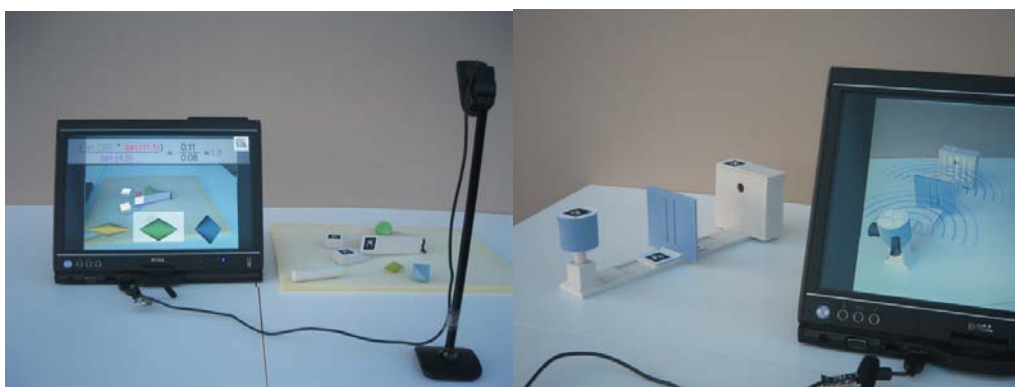

Figure 2
The miniatures are set up one at a time in the webcam's field of view. The webcam transmits an image to the laptop screen. SCeTGo software adds an overlay to the image. As the miniature is manipulated, the overlay changes in response. The overlay depicts an aspect of the scientific phenomenon under investigation, for example trigonometric information or waves (Figure 2). This process of adding unseen elements to the image on the screen is the augmented reality (AR).
Each miniature has two or more AR markers (the black and white shapes in the above image) that are recognised by the software through the webcam. The markers disappear from the screen when the AR software detects them (see Figure 2) and in some cases are
Users can experiment to find the best orientation. In general locating the camera above the miniature, pointing down at an angle, works well (see figures 2 & 5).